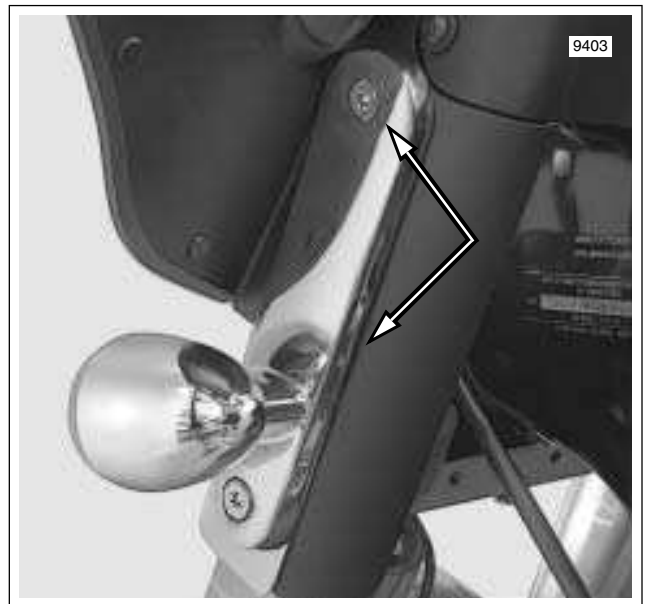

Figure 8-62. Front Turn Signal Lamp (FLHX)
3. Remove two T40 TORX screws to release turn signal lamp mounting bracket from upper and lower fork brackets. See Figure 8-62.